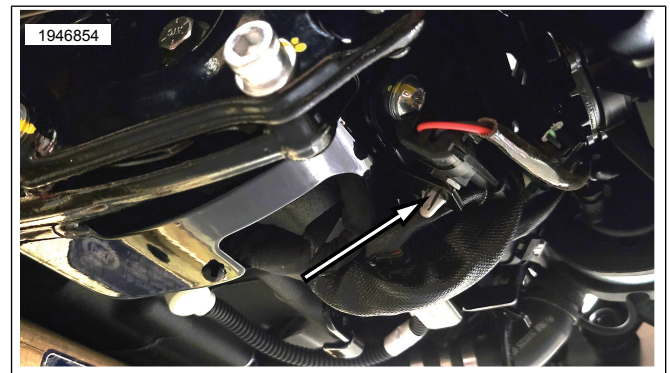

Figure 24. Anchored Cable Strap
15. See Figure 24. Seat anchored cable strap into frame tab.